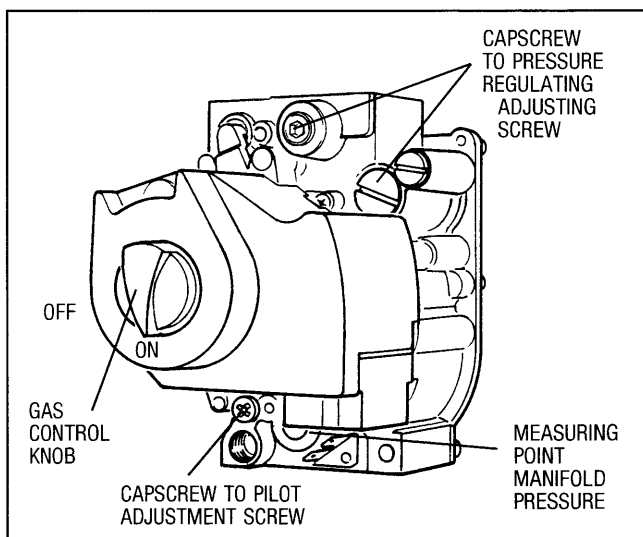
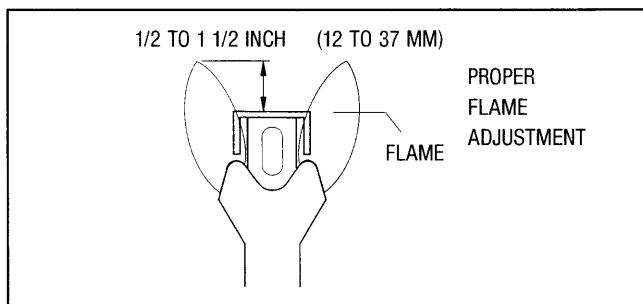

Fig. 12
Fig. 13
11. After adjustment, record pressure on the form on page 14, and install the capscrew on the gas control, fig. 12.
12. Observe the pilot flame through hole in the burner assembly plate. The flame should envelop the flame sensor $\frac{1}{2}$ – $1\frac{1}{2}$ inch, fig. 13. If the pilot flame is satisfactory then go to step 13. If the pilot flame is too small or too large, adjust the pilot using the **pilot adjustment**, fig. 12. Turn the inner adjustment screw clockwise ↷ to decrease, or counterclockwise ↶ to increase the pilot flame. After adjustment, replace the cover screw and tighten firmly.